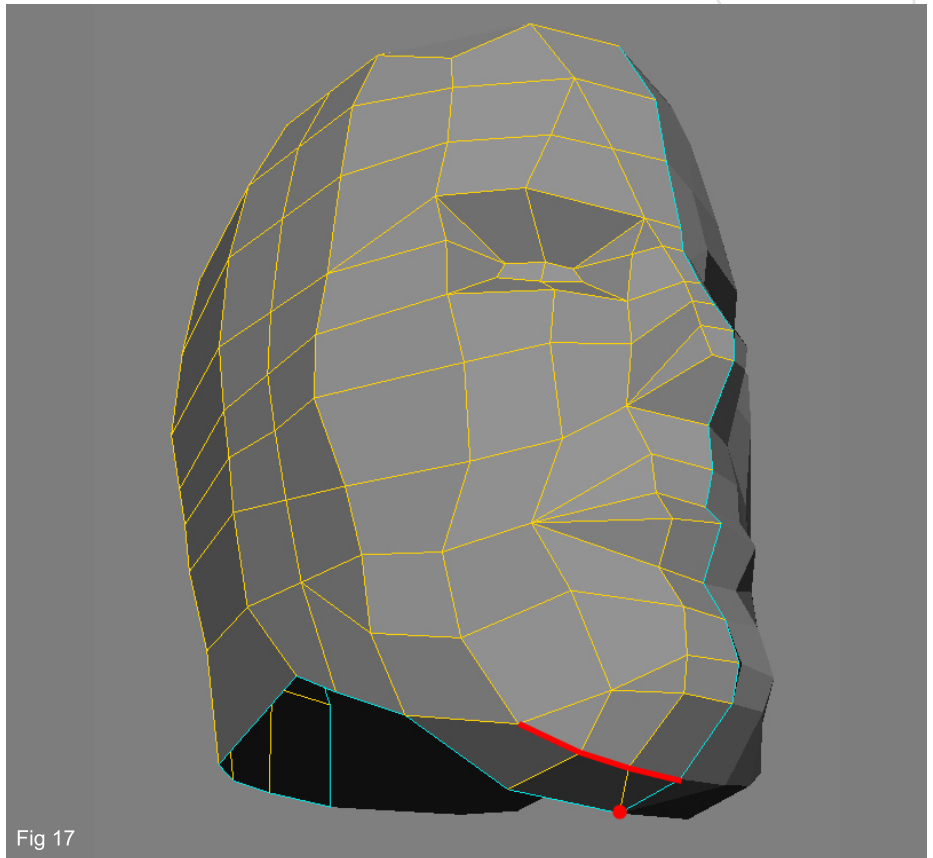

Fig 17
17. The bottom chin area is too flat so we need to round it off a bit. Add some other cuts (marked in red in Fig17), remove the useless polygons in the bottom-back part of the head and weld the two vertices in the middle of the chin (marked with the red dot in Fig17). Now that there's more detail, you can give the chin a more rounded shape.